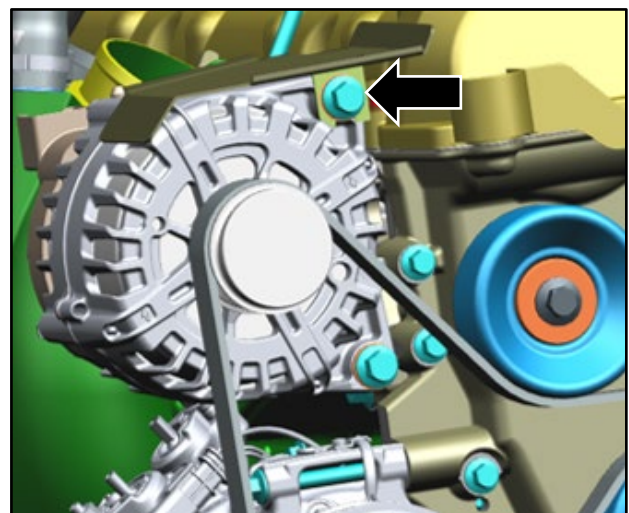

Figure 6
7. Torque the bolt that attaches the alternator splash shield and the alternator to 50 Nm (refer to Figure 6).